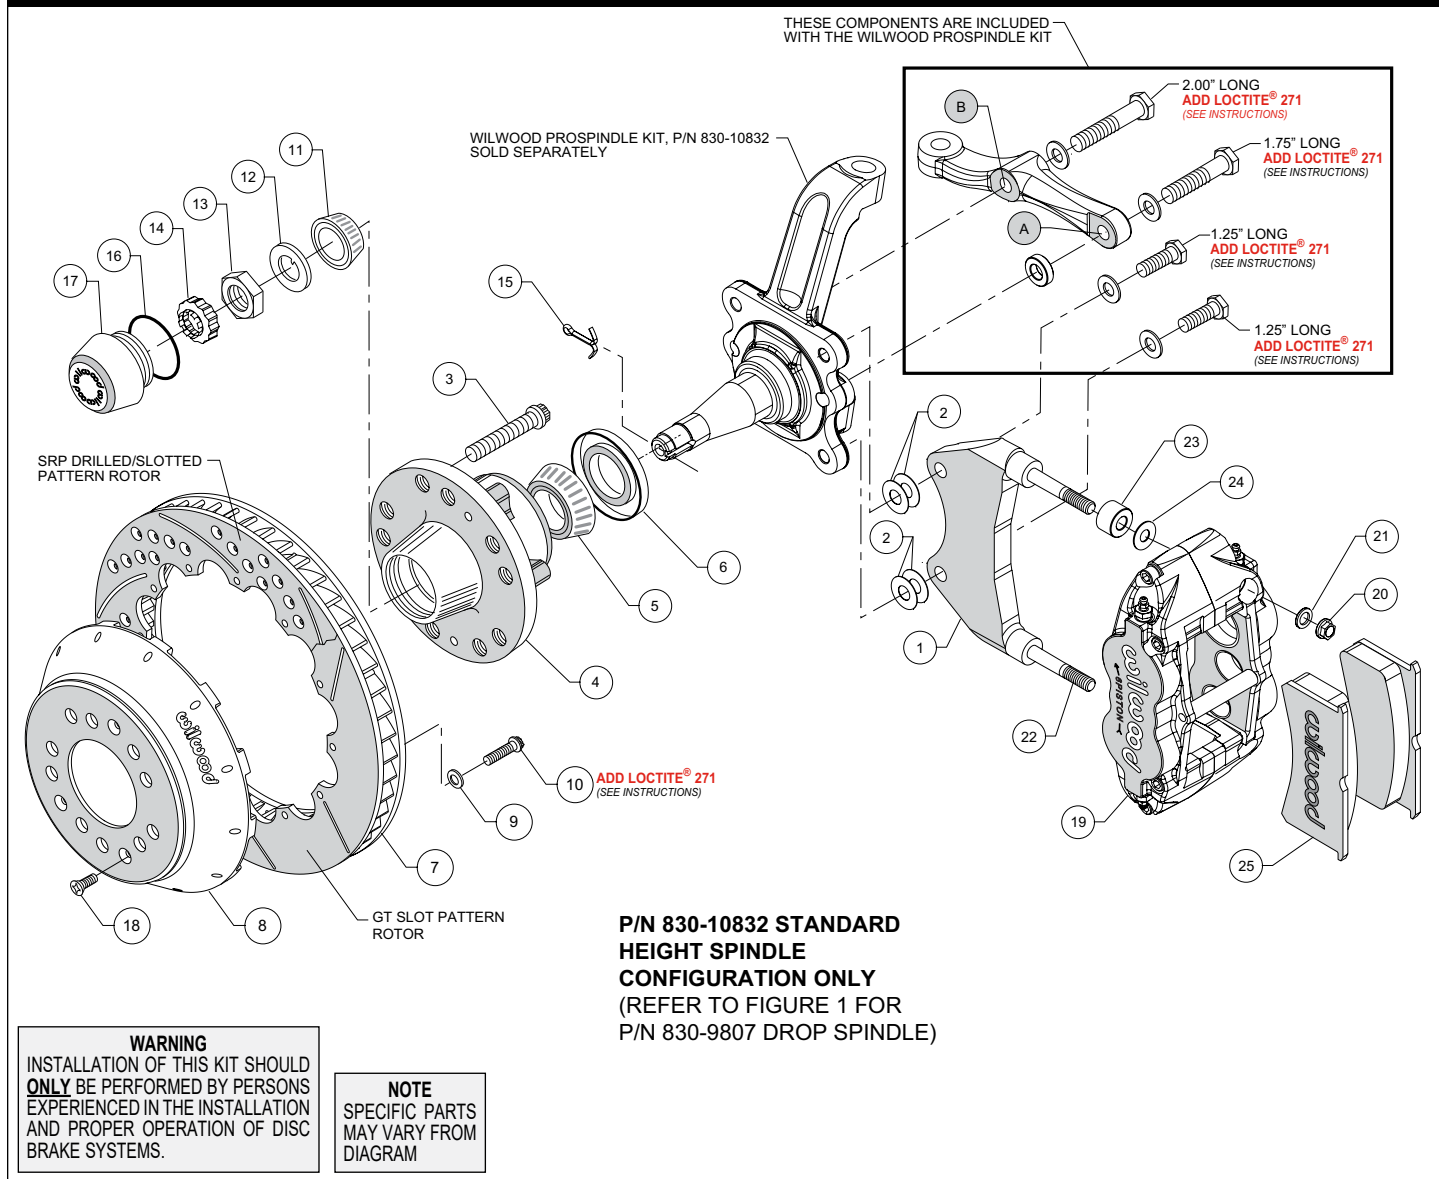

Figure 2. Installation Configuration For Standard Height Spindle, P/N 830-10832
- Orient the bracket as shown in Figure 2 and Photo 2. Install using 1.25" long bolts and .06" thick washers (from ProSpindle kit), and two .016" thick shims (2) on each bolt between the bracket and spindle, Figure 2. Temporarily tighten mounting bolts. **NOTE:** *The bracket must fit squarely against the mounting points on the spindle.* Inspect for interference from casting irregularities, machining ridges, burrs, etc. Later, after the caliper alignment has been checked, the mount bolts will be secured using red Loctite® 271.
- Orient the steering arm, and identify the hole marked 'A', as shown in Figure 2. Install using 1.75" long bolt, .06" thick washer, and .30" thick spacer (all from ProSpindle kit), Figure 2.
- Finish attaching the steering arm through the hole marked 'B', as shown in Figure 2. Install using 2.00" long bolt and .06" thick washer (from ProSpindle kit), Figure 2.